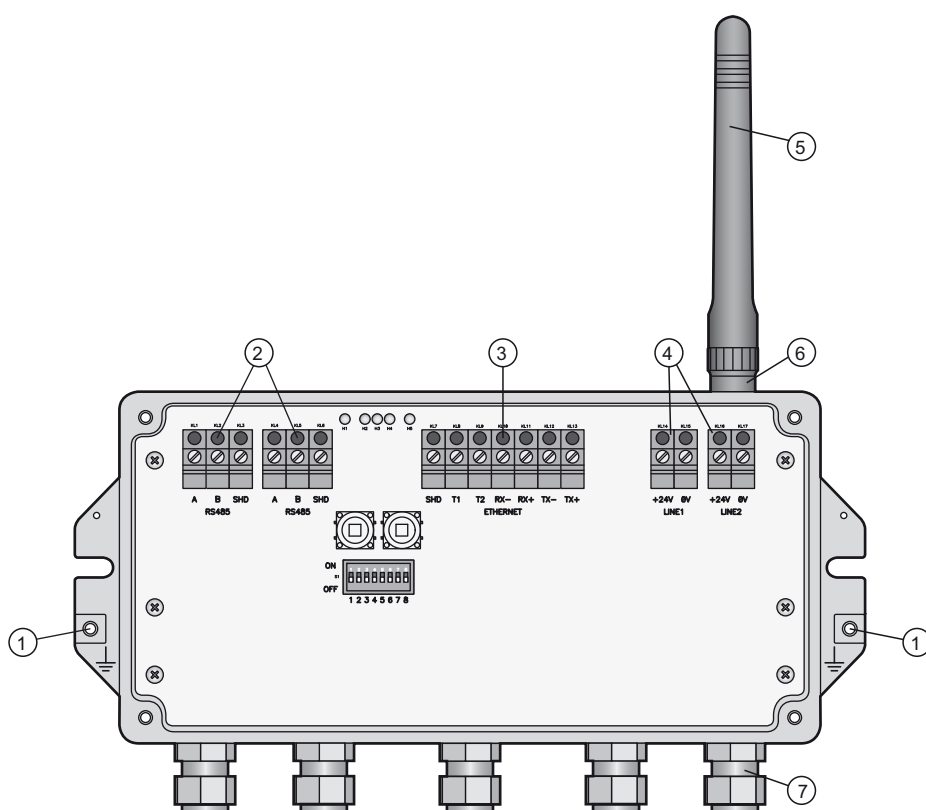

Fig. 5-1: Connections and interfaces
See Figure 5-1 on page 20, Item 6.
5. Connect the 24 VDC power cable to the first power supply connection "Line 1" observing polarity. See Figure 5-1 on page 20.